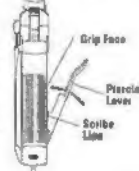

Fig. 11
- Close piercing lever until resistance is felt. While maintaining a moderate force on the piercing lever, use a screwdriver to turn the piercing adjustment screw in order to align the scribed mark on the piercing lever with the grip face. (Fig. 11)